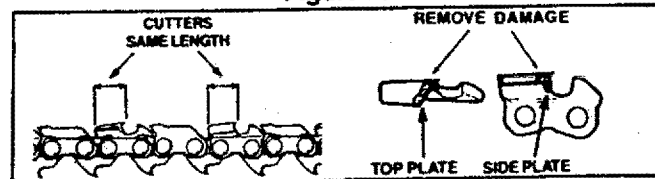

Figure 30
- d.) Keep all cutters the same length. Figure 30.
- e.) File enough to remove any damage to cutting edge (side & top plate) of cutter. Figure 30.